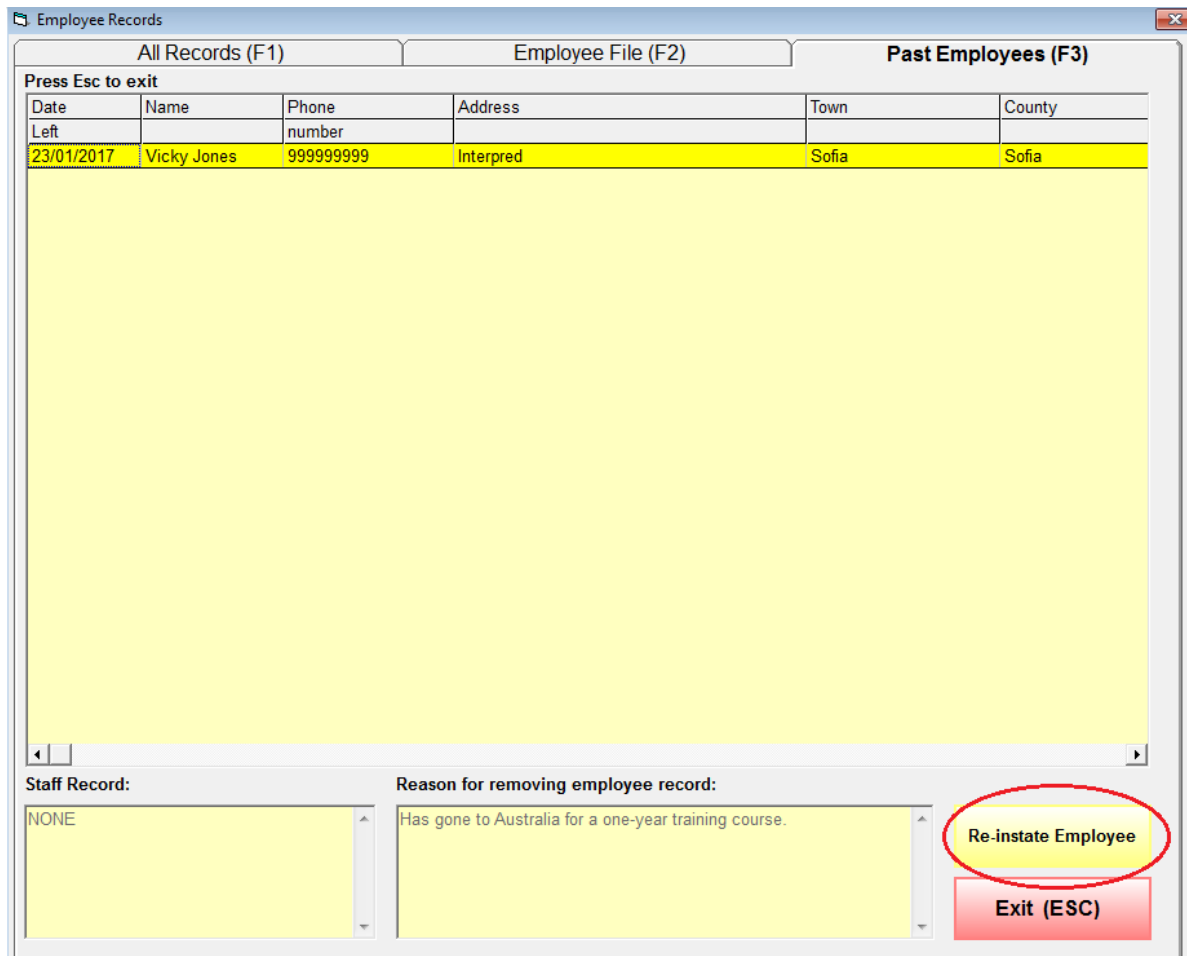

Figure 127: The Re-instate Employee button
- Click the **Re-instate Employee** button, as shown in Fig. 127.